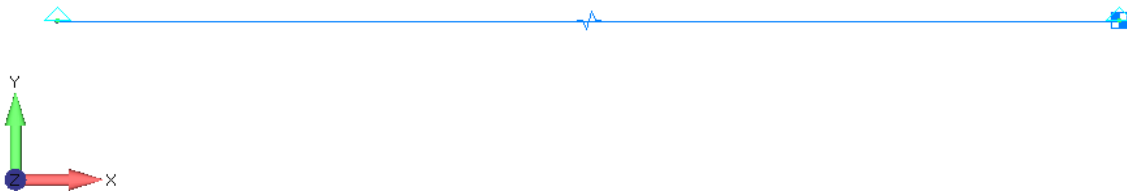

Figure 4-1. Single DOF spring-mass model.
The single DOF spring-mass model (Figure 4-1) consists of a spring grounded at one end with a lumped mass attached to the other. SPCs allow the mass to move only in X-direction translation.
1. Import the 1DOF model "1dof_modes_base.dat" (Figure 4-1). Save the file as "1dof.modfem."